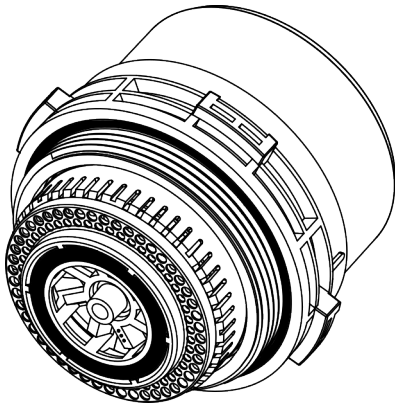

Figure 22. Gasket TE1
1. Check that the the small and the large O-ring on the underside of the meter are seated correctly and correct if necessary (Fig. 22).